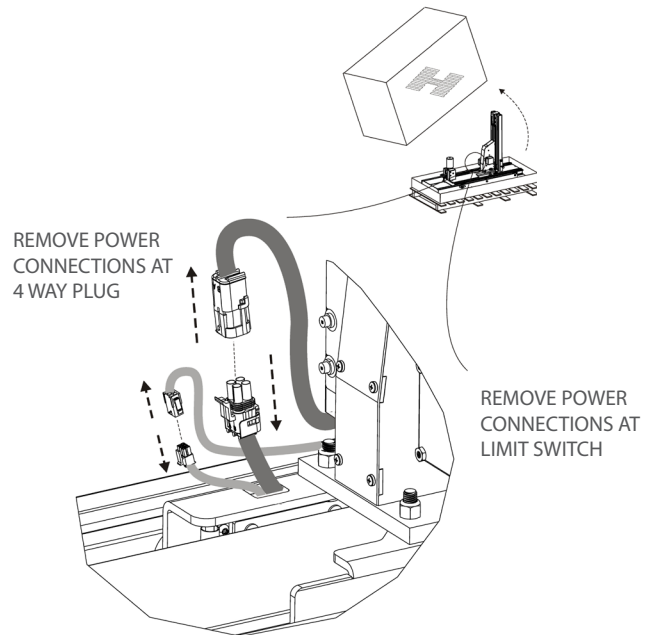

Figure 3-2
1. Remove connections at limit switch and remove power connections at 4-way plug. **See Figure 3-2**